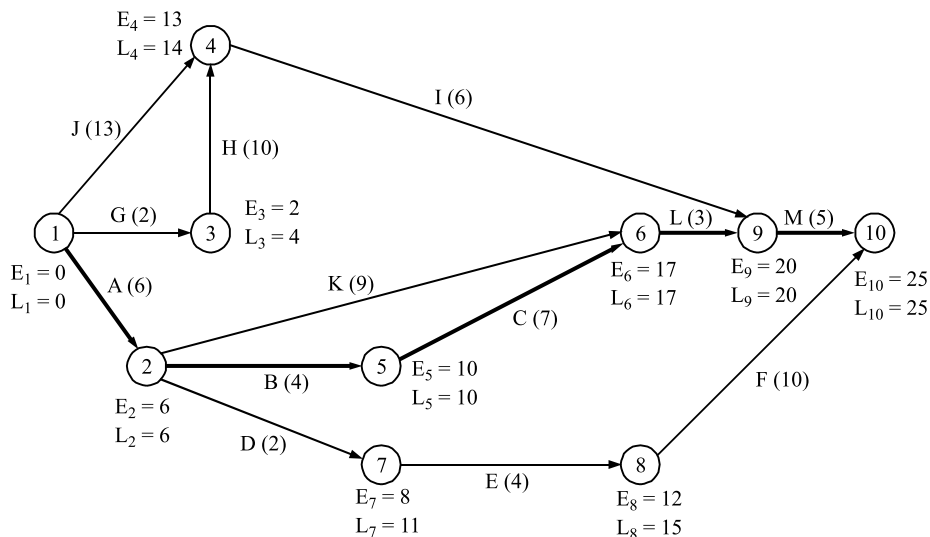

Fig. 13.11
Solution (a) The arrow diagram for the given project, along with E -values and L -values, is shown in Fig. 13.11. Determine the earliest start time – E_i and the latest finish time – L_j for each event by proceeding as follows:
- (b) The critical path in the network diagram (Fig. 13.11) has been shown. This has been done by double lines by joining all those events where E -values and L -values are equal.